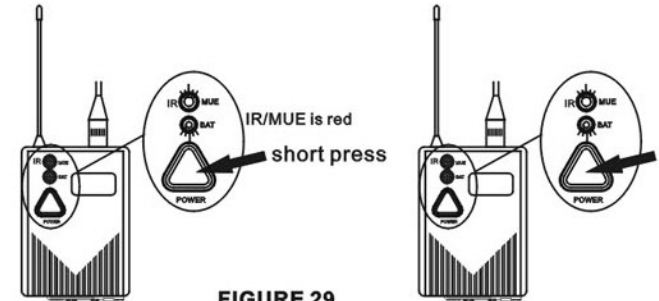

FIGURE 29
b. When the green IR light of change to red MUR light, indicate the system finishing adjusting code and enter MUE(MUE BAT light), at the time, please short-press POWER and enter normal operation; on the contrary, the system don't finish adjusting code and need re-adjust code.(Figure 29)